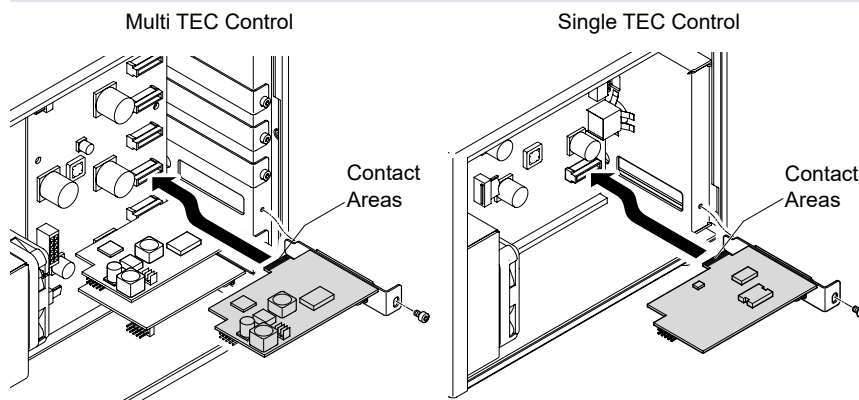

Fig.9: Insert Slot Module
- Unscrew the cover plate of the chosen slot and remove it by sliding it out as shown in Figure 9.